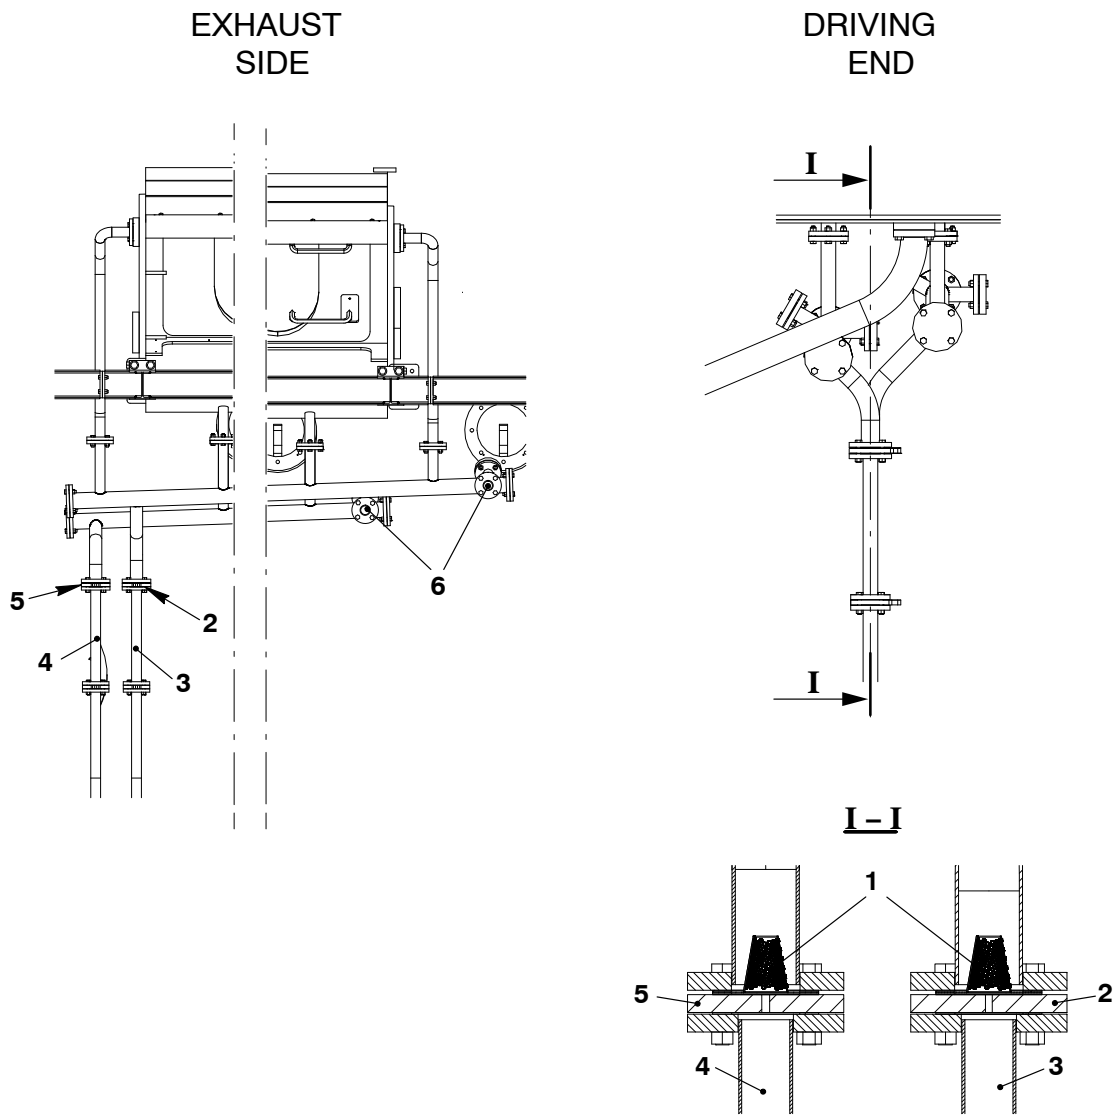

Fig. 2
- 2) Lock the covers (1) in the open position with the pins (2) to prevent unwanted movement.
- a) At regular intervals, look at the sight glasses (6, Fig. 2) to make sure that water flows through the pipes.
- b) If necessary clean the filters (1), the plates (2, 5) and the drain pipes (3, 4). For more data, refer to the Operation Manual 8345-1.